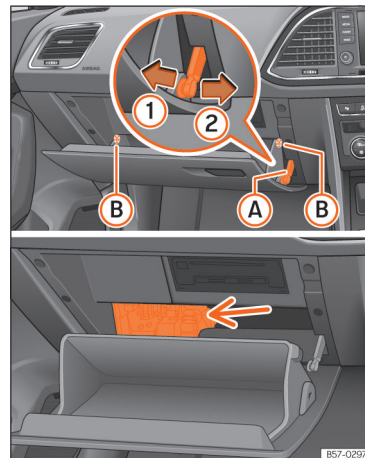

Fig. 106 Glove compartment (left guide): Access to the fuse box.
- Undo the opening limiter »» Fig. 106 (A) in two steps: first, unlock the limiter by pulling back on it (arrow ①) and then move it gently to the right (arrow ②). Remove the guide when the cover is in the normal opening position (30°).
- Free the side pivots (B) to release the cover to its second opening position (60°).